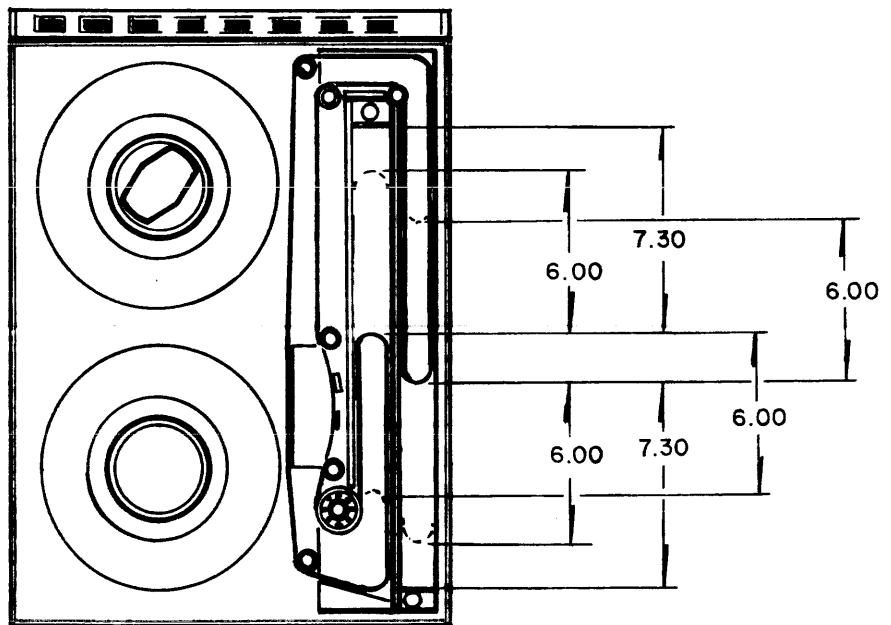

Figure 49. Chamber Adjustment
3. Using a scale and measuring on the face of the chamber cover, set the loop in the fixed chamber to 7.30 inches below the top of the chamber grill as shown in Figure 49. Both chambers are now at zero position.